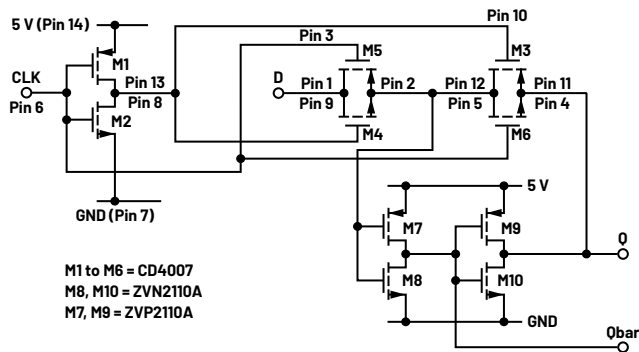
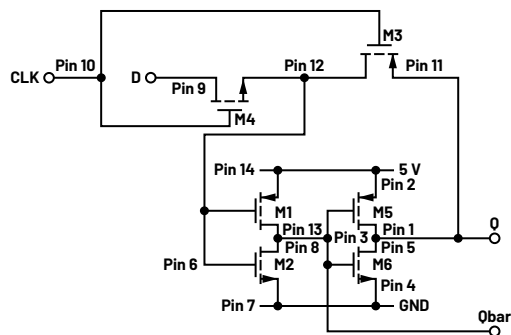

Figure 2. A D-type latch.
Figure 8. Six transistor rising edge D-type latches.
We will now combine the double transmission gate built with the inverter chain of the previous exercise to build a D-latch as shown in Figure 2. The two transmission gates work in tandem to realize the D-latch. During the transparent phase of the latch, when CLK = 0, the first transmission gate (left) is on while the second (right) is off. D is transmitted to the output (Q) through the first transmission gate and the two series connected inverters. During the latched phase of the latch, when CLK = 1, the first transmission gate is off but the second transmission gate is
on. As a result, any change in the Input D is not reflected at the Output Q. However, the second transmission gate, which is now turned on, ensures that the previous logic level at Q is retained through the closed positive feedback loop formed around the two inverters in series. Build the D-latch circuit shown in Figure 2 on your solderless breadboard. Use the CD4007 CMOS array for devices M1 to M6 and one ZVN2110A NMOS and ZVP2110A PMOS for each of the two inverter stages: the M7 and M8 stage and the M9 and M10 stage. Use the fixed 5 V power supply from the ADALM2000 to power your circuit.
The D-type latch shown in Figure 2 uses complementary pass gates with both NMOS and PMOS transistors. Individual NMOS or PMOS cannot pass both high and low logic levels with equal strength (that is, on resistance). A single NMOS device can pass a strong Logic 0 but will pass a weak Logic 1. Conversely, a single PMOS device can pass a strong Logic 1 but will pass a weak Logic 0.
For many design cases in integrated circuits where internal signals just pass between internal circuit blocks, the asymmetric drive of a single NMOS or PMOS transistor pass is not a significant issue. The positive feedback inherent in a latch can help in this case. In those cases, a simplified D-type latch that uses just six devices rather than the 10 used in Figure 2 is shown in figures 8 (latches on rising edge) and 9 (latches on falling edge).
Be sure to turn off the fixed 5 V power supply before making any changes to your breadboard. Reconfigure the circuit from Figure 2 on your solderless breadboard to first look like Figure 3. Be sure to turn on the fixed 5 V power supply. Repeat the same procedure with AWG1 connected to the D input and AWG2 to the CLK input. Verify the operation as a latch and that it will latch both Logic 0 and 1 inputs on the proper edge of the input clock.